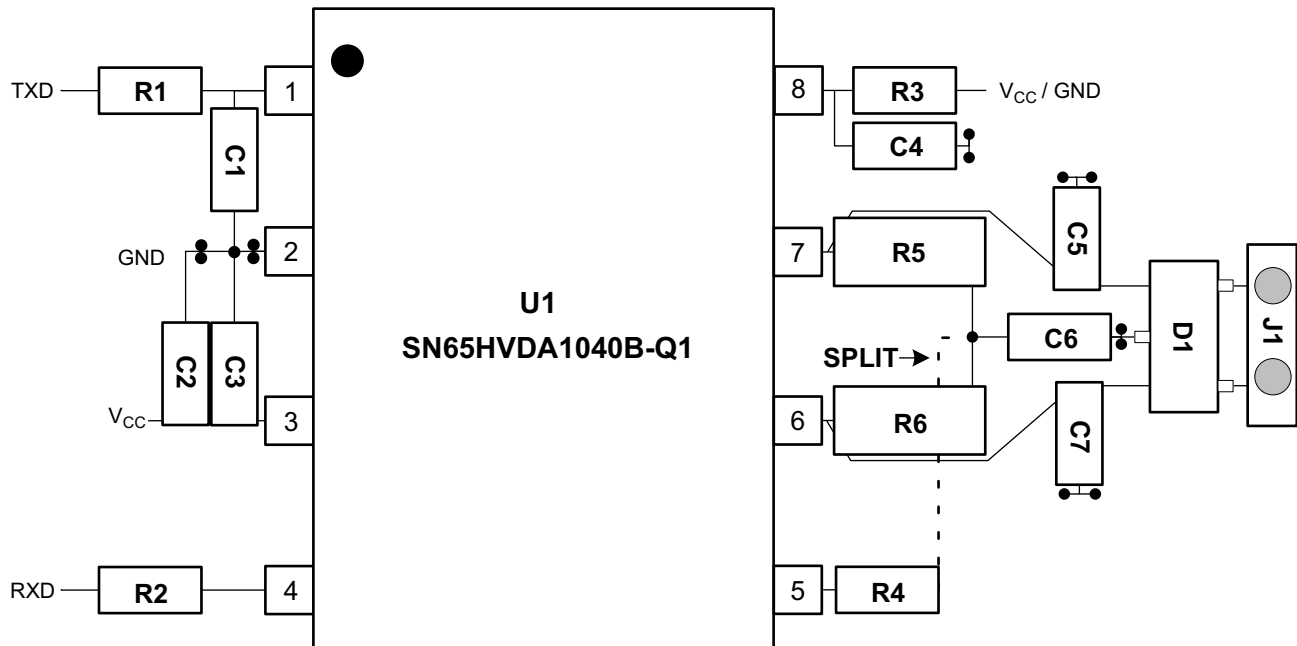

Figure 26. Typical CAN Bus Layout Example
- Design the bus protection components in the direction of the signal path. Do not force the transient current to divert from the signal path to reach the protection device. An example placement of the Transient Voltage Suppression (TVS) device indicated as D1 (either bidirectional diode or varistor solution) and bus filter capacitors C5 and C7 are shown in Figure 26.